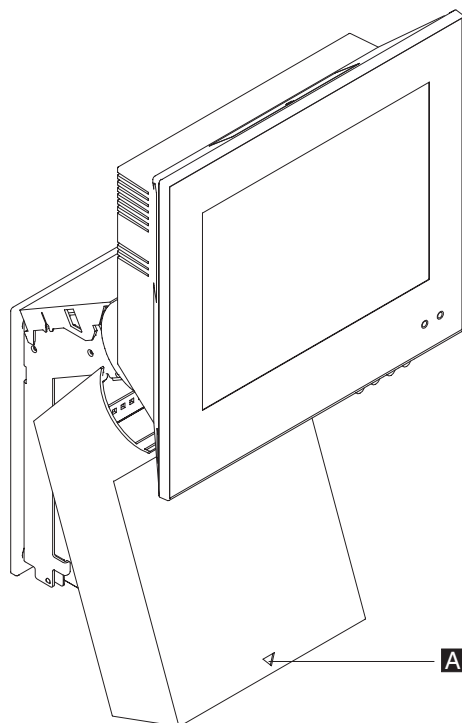

Figure 117. Removing the base cover when wall mounted
3. To reinstall, angle the base cover **A** as shown in Figure 117 and slide the cover up and onto base until it latches.